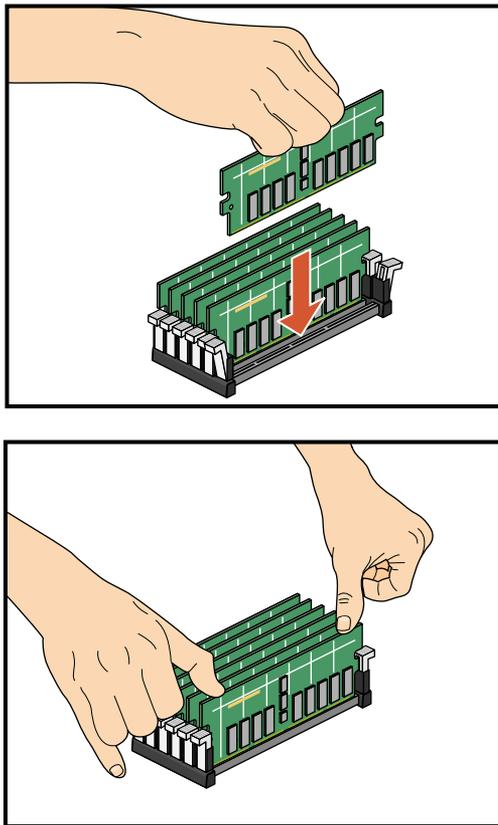

Figure 7-26 Inserting a DIMM
6. Install the DIMMs, as follows (see Figure 7-26):
- e. When the DIMM is fully seated in the connector, the ejector latches snap into place flush with each end of the DIMM, see Figure 7-26.